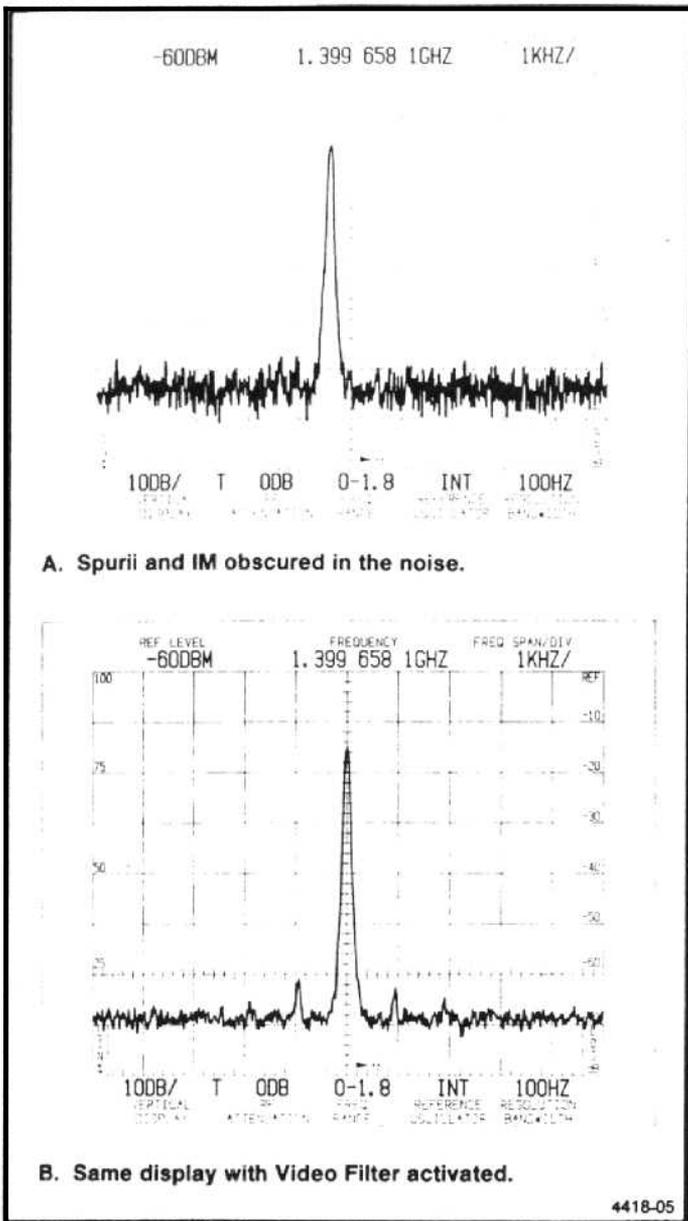

Figure 5-3. Integrating a display with the Video Filter.
(1) Change the FREQ SPAN/DIV to 500 kHz, switch AUTO RESOLN on, and tune the calibrator signal to center screen.
(2) Activate WIDE and NARROW Video Filters and note the reduction in noise as each filter is switched in (see Figure 5-3). The NARROW filter will have a more pronounced effect on noise reduction. Also note the change in sweep rate, if the TIME/DIV selector is in the AUTO position.
(3) Switch both Video Filters off.